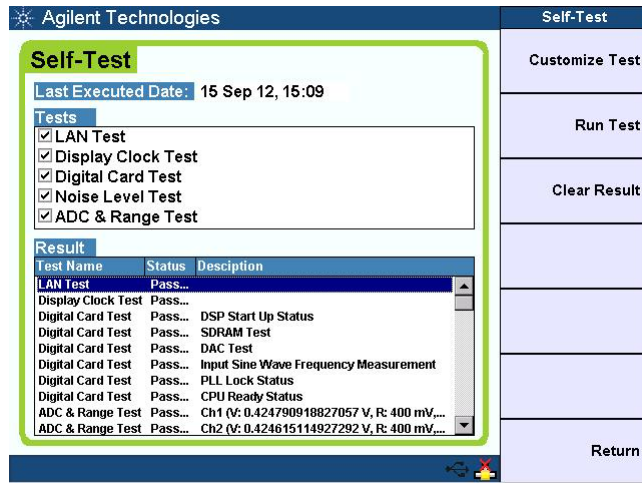

Figure 1-12 Self-Test menu
- 2 From the system menu page, press **Service**. The Self-Test menu is displayed as shown in Figure 1-12.